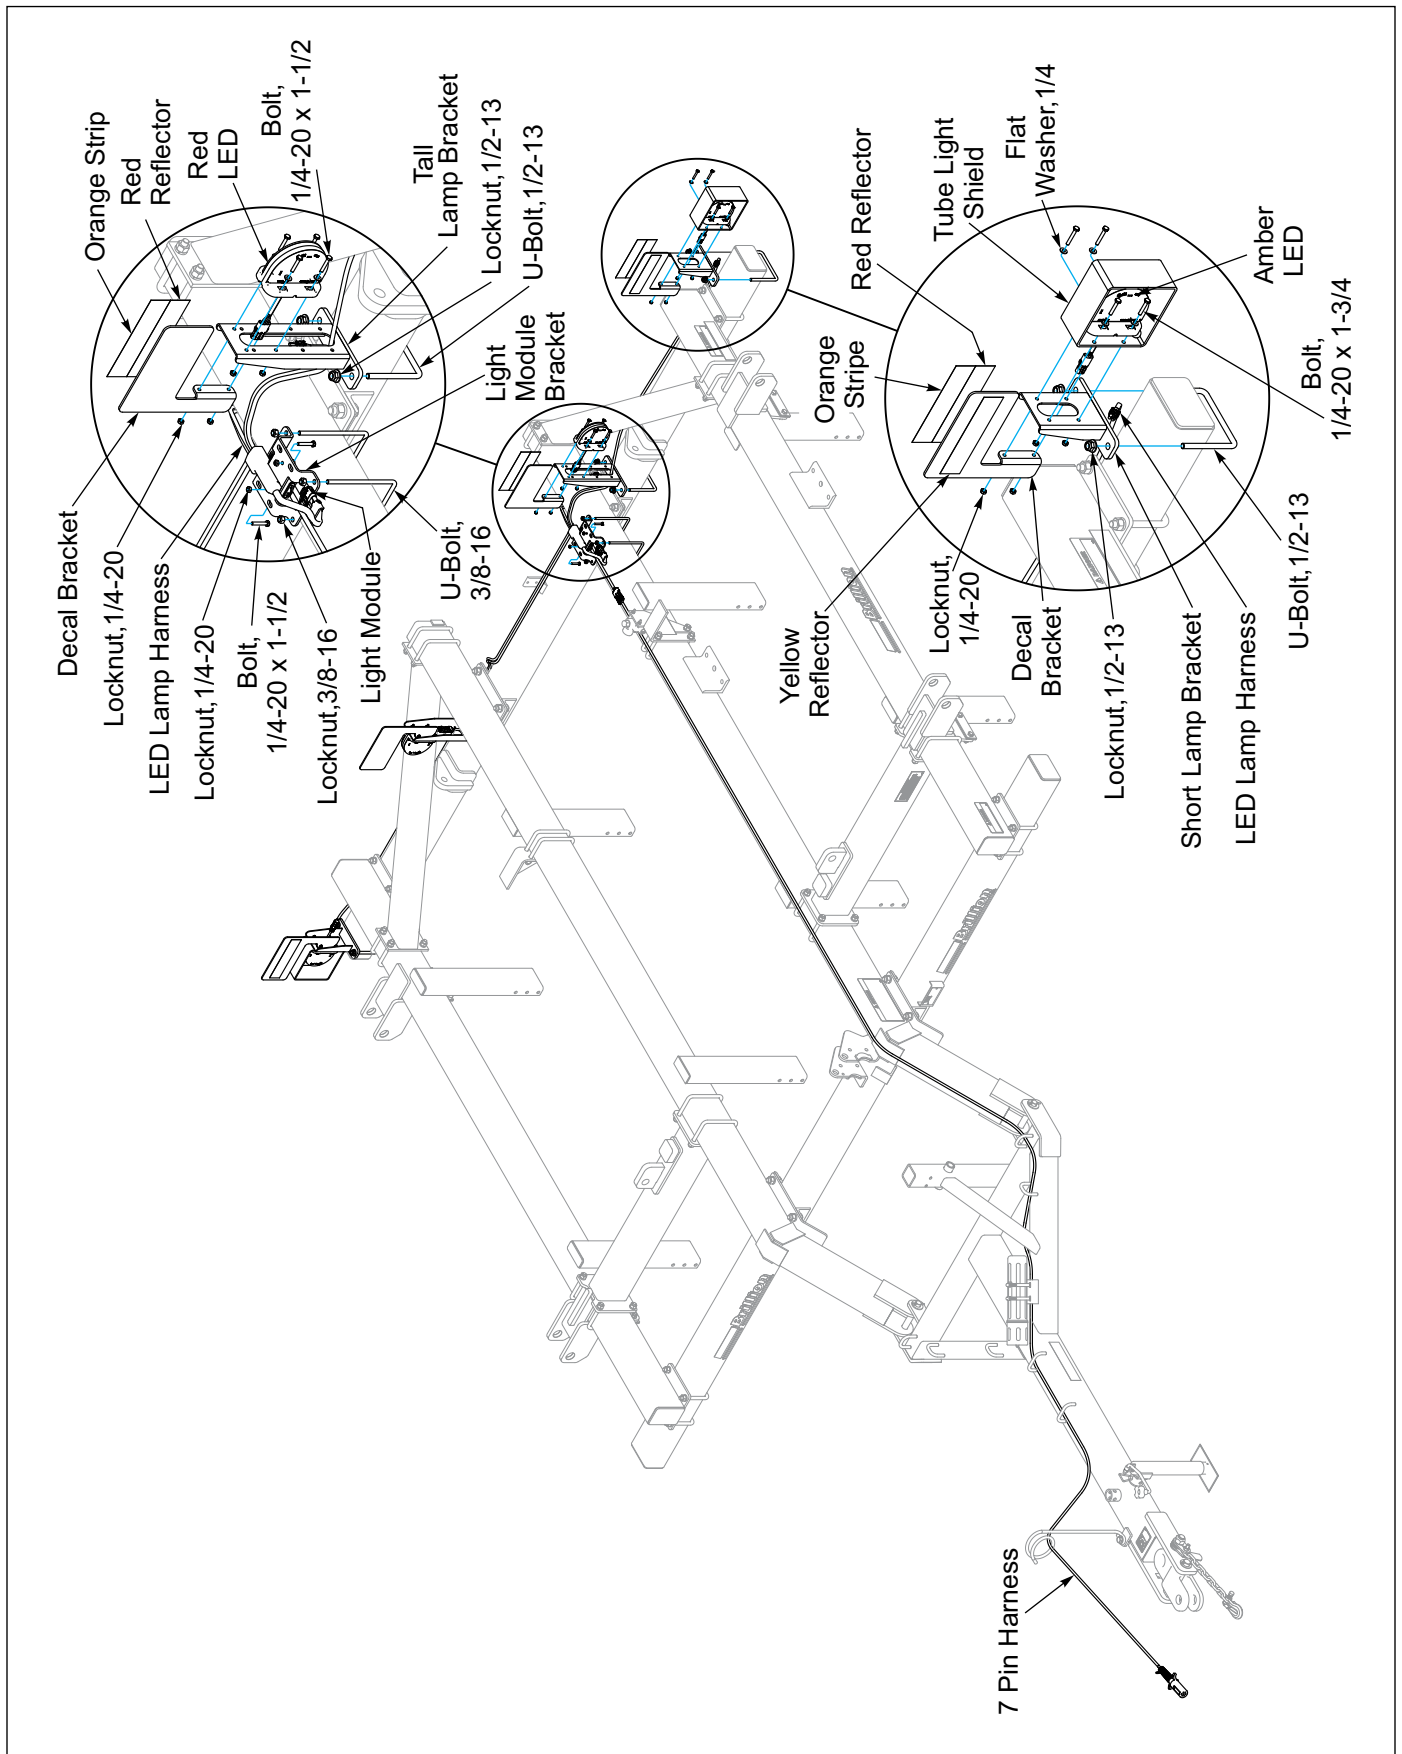

Figure 2-43: LED Lamp Installation
2. With the Red LED Lamp facing rearward, attach the Lamp to the outside and the Decal Bracket to the inside of the Tall Lamp Bracket using 1/4-20 x 1-1/2 Screws and Locknuts. **See Figure 2-43.**
4. Place the Amber LED inside the Light Shield. Attach Lamp and Shield to the outside and the Decal Bracket to the inside of the Short Lamp Bracket with 1/4-20 x 1-3/4 Screws and Locknuts. **See Figure 2-43.**
10. Apply the reflector decals to Decal Plate Mounts. The amber reflector decals should be front facing on the outer Decal Plate Mounts. The red reflector decals and orange decals should be rear facing on both the inner and outer decal plate mounts. **See Figure 2-43.**